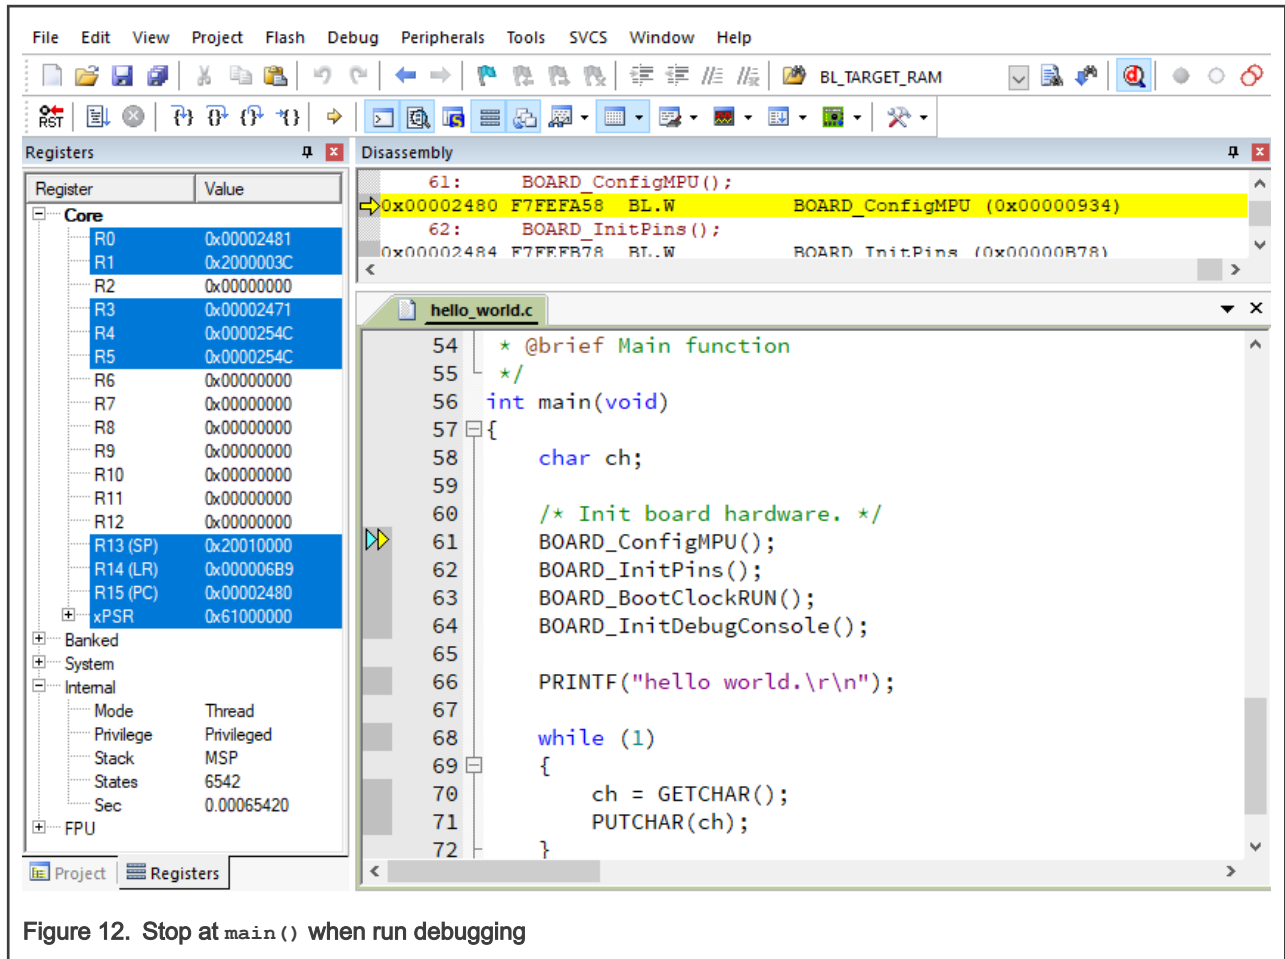

Figure 12. Stop at `main()` when run debugging
- To debug the application, click **load** (or press the F8 key). Then, click the **Start/Stop Debug Session** button, highlighted in red in Figure 12. If using **J-Link** as the debugger, click **Project option > Debug > Settings > Debug > Port**, and select **SW**.